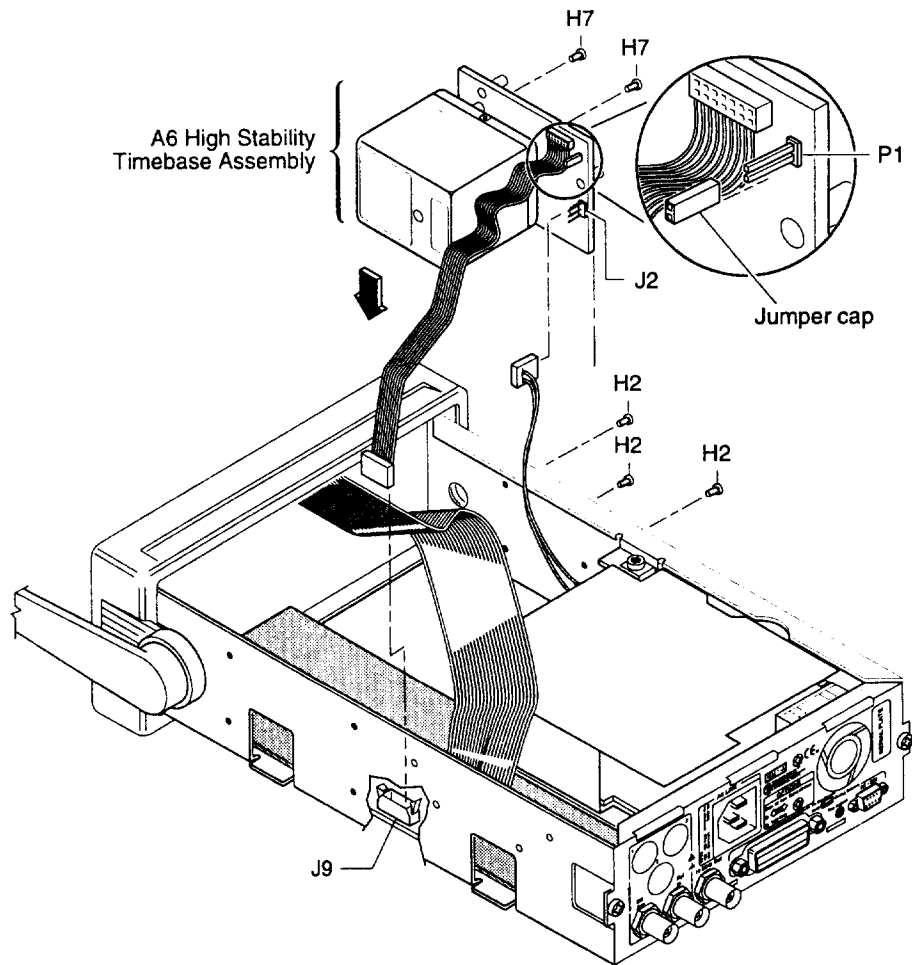

Figure 4-3B. High Stability Timebase Retrofitting (Option 001, 010, 012)
- 6 Plug the oven oscillator into the socket on A6 Timebase Support Board, and secure the oven oscillator to A6 using the two Pozidriv screws (H7) as shown in Figure 4-3B.**
- 7 If you are retrofitting the Option 001 Medium Stability Timebase, remove the jumper cap on P1 of A6 Timebase Support Board as shown in Figure 4-3B.**
- 8 Mount A6 High Stability Timebase Assembly on the left side using three TORX 10 screws (H1) as shown in Figure 4-3B.**
- 8 Plug the power supply assembly's two-wire cable into the three-prong connector (J2) on the high stability timebase assembly as shown in Figure 4-3B (if the two-wire cable exists).
- 9 Connect A6 High Stability Timebase Assembly cable to connector J9 on A1 Motherboard Assembly as shown in Figure 4-3B.